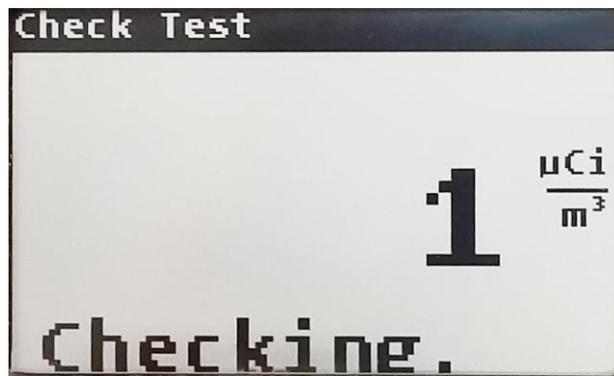

Figure 2-5. Internal Instrument Test Screen.
- a. INTERNAL-A preset bias and the resulting reading may be defined at calibration in order to give a consistent reference reading during the CHECK operation. This reading tests the electronics and amplifier and will generate a repeatable reading if the circuits are functioning properly. If the instrument fails to read within 20% of a proper reading within 60 seconds, it should be sent to a calibration facility for recalibration. See Figure 2-5 for an example of an internal test screen.